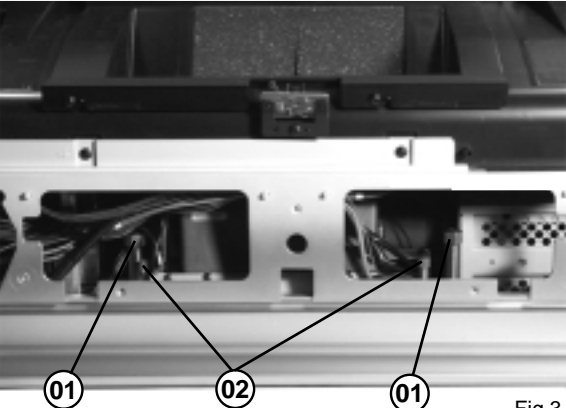

Fig.3
- Adjust Tilt with ( 2 ) and position with ( 1 ) (Fig. 3,4) of the optical Engine plate in order to obtain a correct picture as shown above.
- Lock the adjustments of Engine plate with screws (1 ) (Fig.3,4).